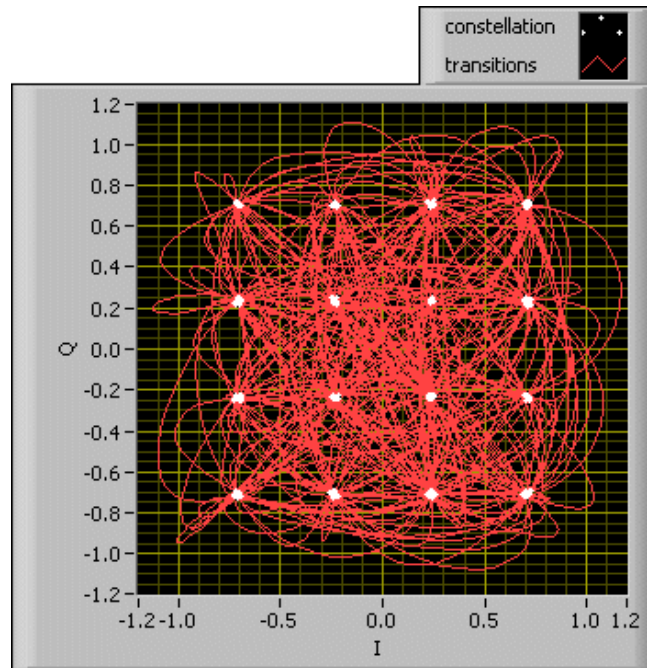

Figure 9. Filter Alpha Value Mismatch
For example, Figure 9 shows a wrong value entered for alpha (filter parameter). The transmitter uses an $\alpha = 0.3$, and the RFSA uses an $\alpha = 0.5$.
4. Reconnect the NI 5670 front panel cables securely as shown in Figure 9.